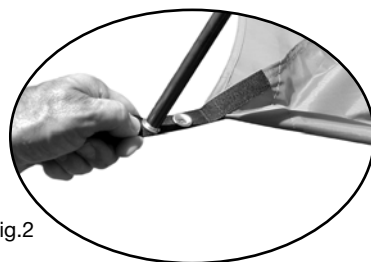

fig.2
- Insert the post end of a pole into a grommet on the corner stake-out web. See fig.2.